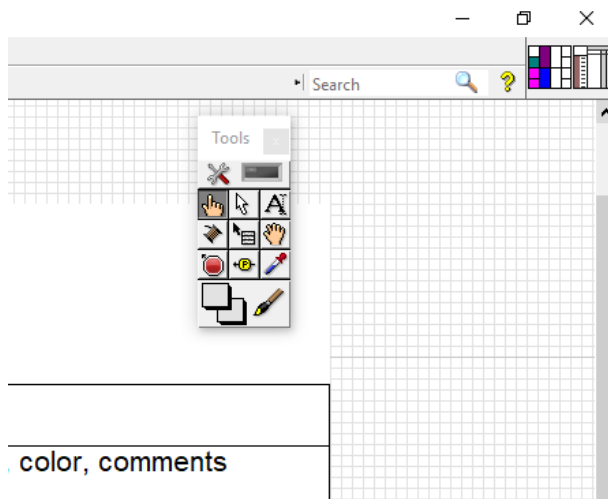

Figure 67. Tools Palette window
2. The Tools Palette window will appear (Figure 67). This allows you to select objects.